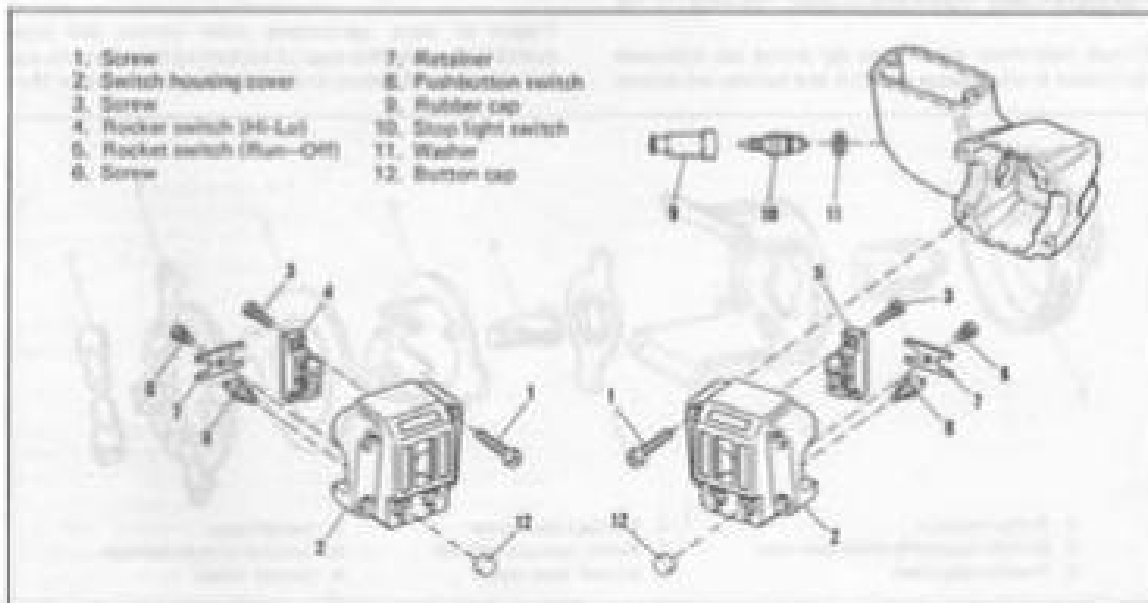

Figure 5-5. Handlebar Switch Assemblies
The left handlebar switch assembly, figure 5-5, contains a rocker arm switch (headlamp HI-LO beam) and two pushbutton switches (horn and left turn signal). The right handlebar switch assembly contains a rocker arm switch (RUN/OFF) and two pushbutton switches (engine start and right turn signal). Individual rocker arm and push button switches can be replaced if defective.
To replace individual switches, remove four screws (1, figure 5-5) and pull off cover (2) assemblies. Remove screws (3) and rocker switches (4 and 5) or screws (6), retainer (7) and pushbutton switch (8) as needed. Reassembly is the reverse of disassembly.
To replace stoplight switch in right handlebar assembly (figure 5-5), remove cover (2) and rubber cap (9). Disconnect wires and unscrew switch (10) and washer (11) from housing. Switch must be replaced as a unit.